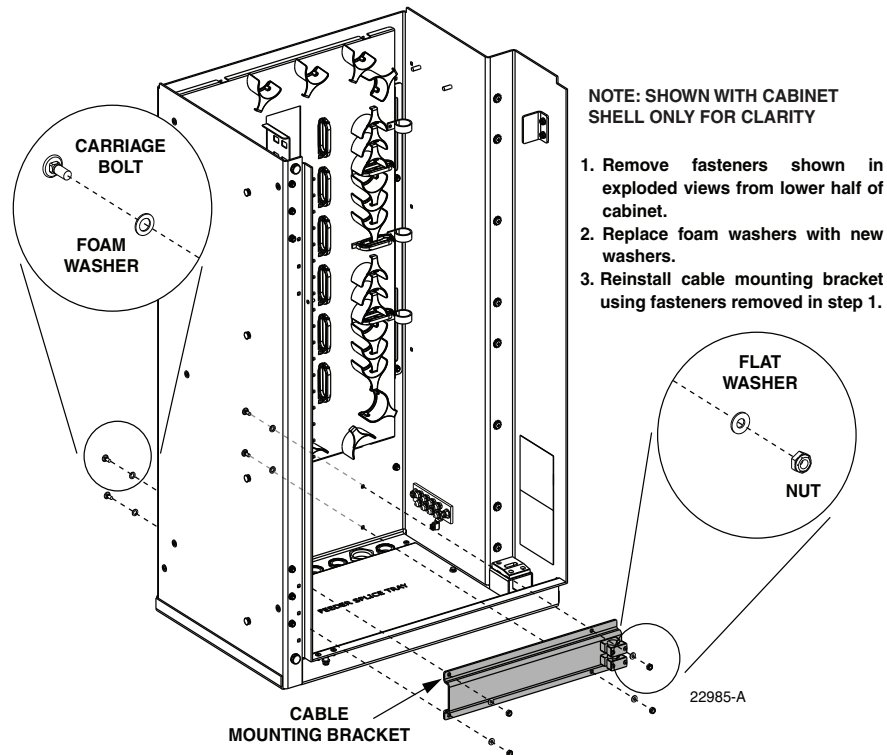

Figure 31. Reinstall Cable Mounting Bracket
11. Remove the specified carriage bolts, foam washers, flat washers, and nuts from the lower half of the cabinet as shown in Figure 31.